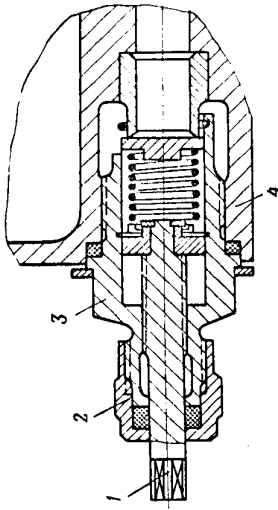

Fig.13. Oil Unit Reducing Valve
1. Unlock the shank of the reducing valve spring adjusting screw (Fig.13).